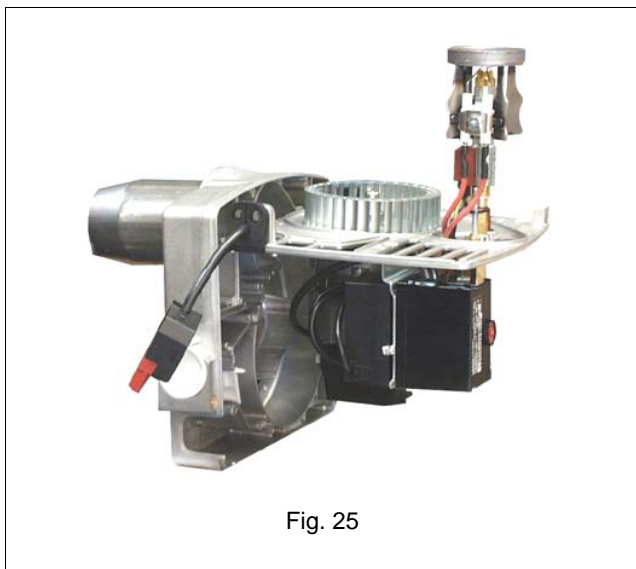

Fig. 25
**⚠ In order to remove the nozzle, it is important to use two wrenches as shown in Fig. 25, to avoid damaging the burner component plate!**
- 7 Unscrew the V screw that fastens the combustion head and remove the head from the nozzle-holder (Fig. 27 - Fig. 25)